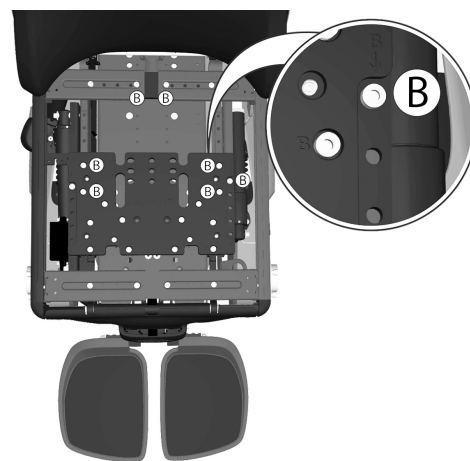

Figure 505. The position of the rear section of the seat frame (backrest position) is fixed by five screws marked with the letter B.
7. Adjustment of the rear section of the seat frame (backrest position): remove the seven screws marked (B) securing the seat frames rear section, see fig. 505.